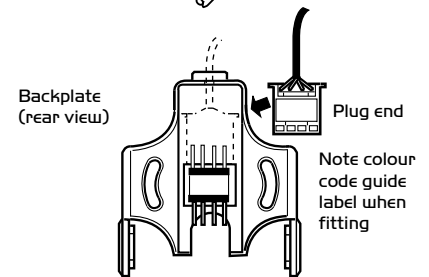

Figure 3.
e) Before fixing the backplate to the wall, connect the wall fixed cable end plug to the upper set of pins on the bracket (fig 3)